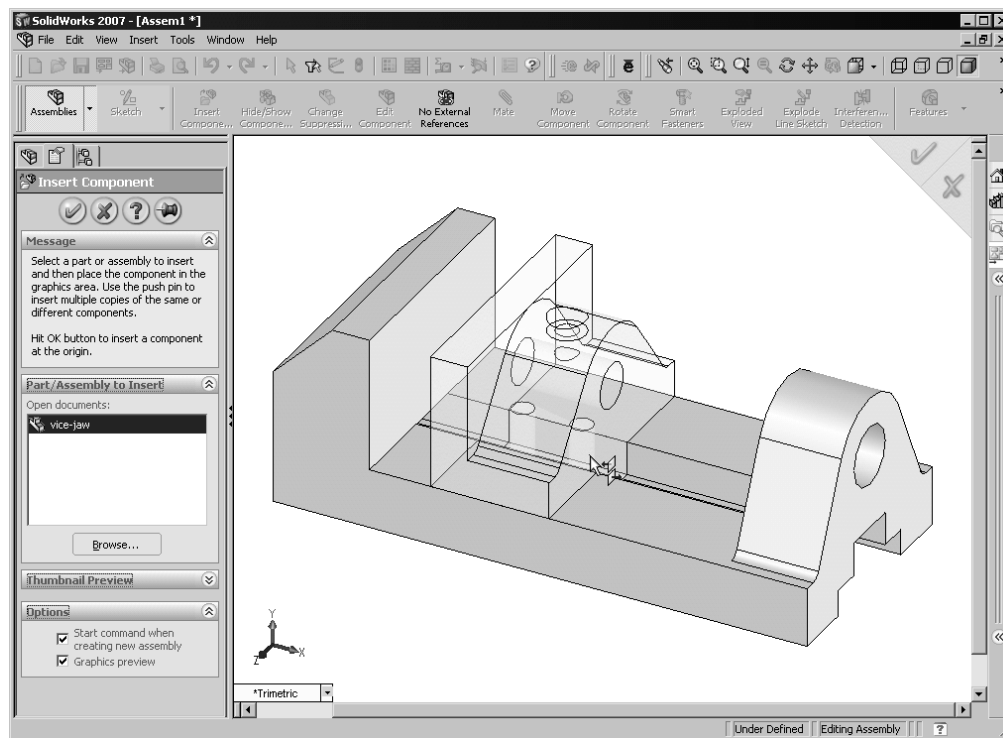
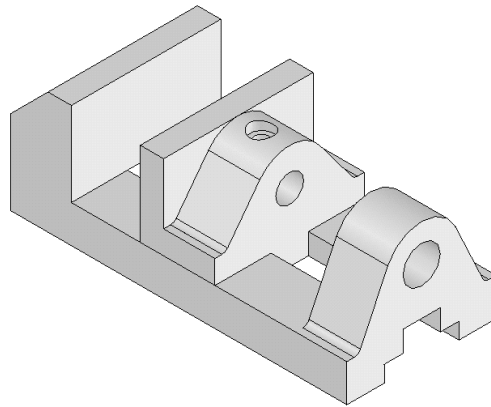

Figure 12-58 Second component being placed
Figure 12-59 Vice Jaw assembled with the Vice Body
- the Vice Jaw because the mate references are already defined in both part documents, refer to Figures 12-58 and 12-59.
Figure 12-58 shows the second component being placed in the assembly document and Figure 12-59 shows the isometric view of the Vice Jaw assembled with the Vice Body.